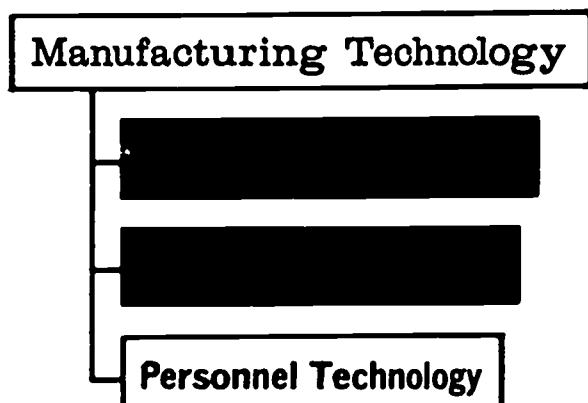

Fig. 4-1. There are three divisions of manufacturing technology.
There are three kinds of manufacturing technology: (1) *management technology* (2) *production technology*, and (3) *personnel technology*, Fig. 4-1. In making goods, as in making meals, there are steps to follow. Before your mother prepares a meal, she decides what she will cook. Then she goes to the store and buys the food she will bring home for the meal. She checks often as she cooks the food to be sure it is properly done. When